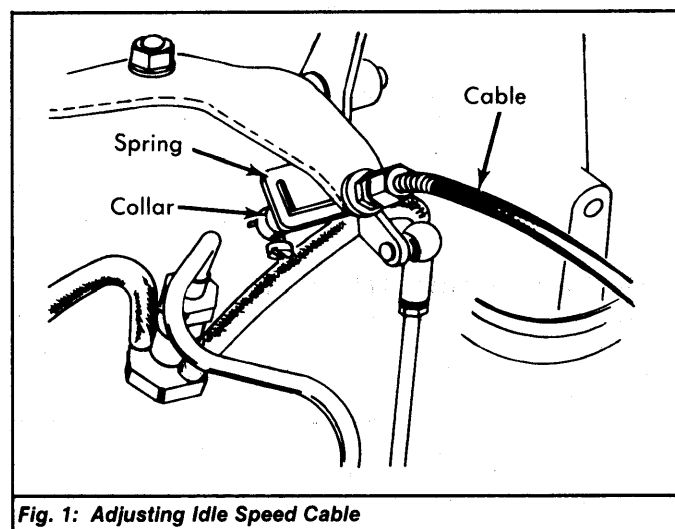

Fig. 1: Adjusting Idle Speed Cable
3) Depress accelerator pedal, and at the same time, turn idle speed regulator knob all the way counterclockwise. Start engine and check idle RPM. Engine should now be running at 1000-1100 RPM. If not, adjust idle speed cable. See Fig. 1.